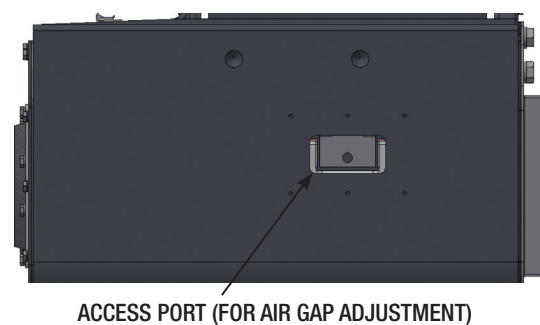
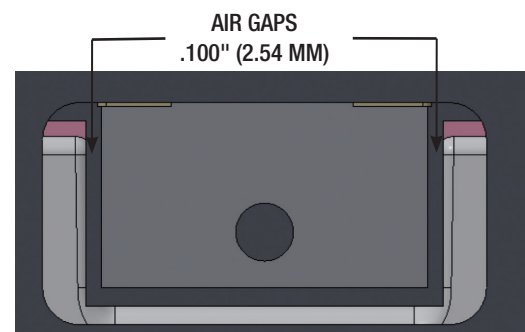

Figure 10 - Access Port
Figure 11 - Motor Gap
8. Remove the nameplate from the side of the body casting to gain access to air gap. (*See Figure 10*).
9. Working through the opening in the side of the body casting (*Figure 10*) and using a non-magnetic feeler gauge (furnished with each unit), (*Part 20*) approximately .100" (3 mm) thick check the air gaps between the E-Frame legs and the armature pole pieces. (*See Figure 11*). These gaps should be uniform in width and parallel and as nearly alike as possible. If they are not, they should be adjusted by shifting the electrical assembly plate with the front or rear adjustment screws. In checking the gaps, the internal parts will be easier to see if the rear cover (*Part 3*) is removed.